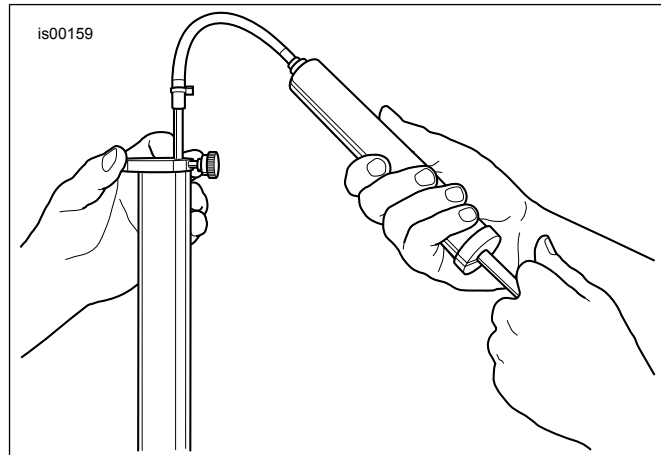

Figure 6. Remove Excess Fork Oil
- d. See Figure 6. Insert rod into top of fork tube until metal ring rests flat on top of fork tube, and the outer fork tube is pushed all the way down.